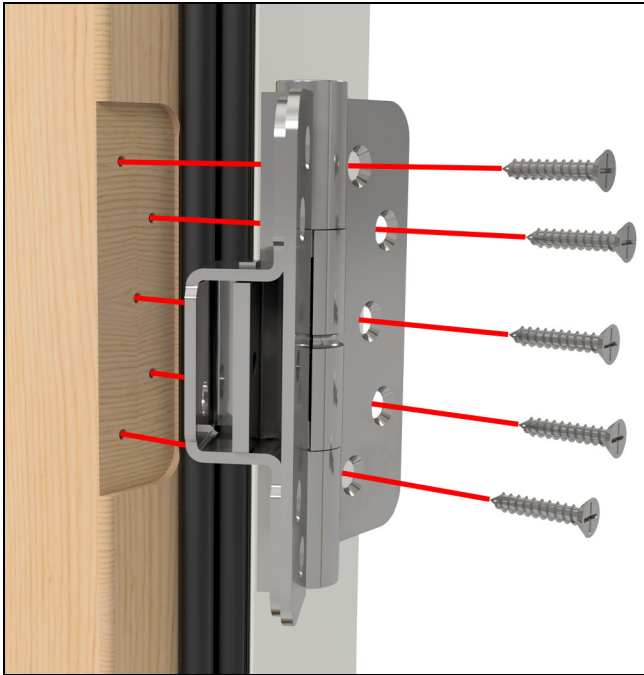

Figure 32 Exterior view
3. Insert stationary panel hinges into routs located on the stationary panel. Use #8 X 1" screws to secure the hinge to the panel. See Figure 32. Repeat for all hinges.